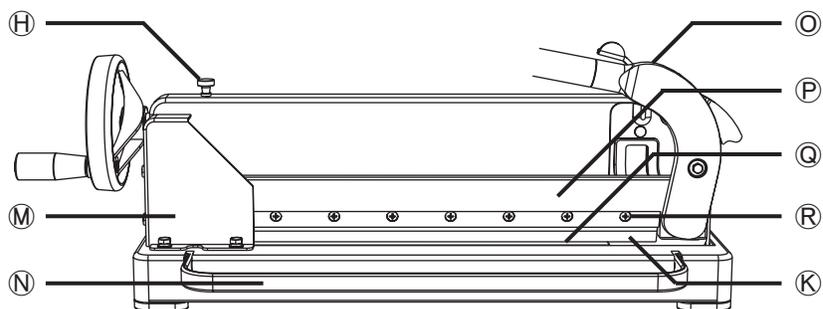
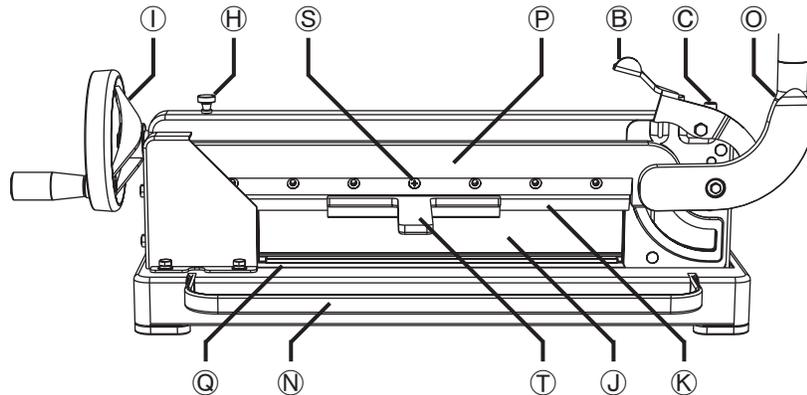

Figure 2
Figure 3
1. Locate the necessary tools. You need one blade holder ① (supplied with the machine) and one #2 philips screwdriver.
2. Place the machine on a flat, stable surface located in a traffic-free area and face the blade carrier ② side towards you. Fold down the support extender ③ as shown in figure 2.
3. Lower down the paper clamp ④ to the bottom position.
4. Release the blade safety lock ⑤ and bring down the cutting bar lever ⑥.
5. Do not release the center blade screw ⑦ at this time! Release the rest of the blade screws ⑧ with a #2 philips screwdriver.
6. Raise the cutting bar lever ⑥ until the lever is locked.
7. Hold the blade knife edge ⑨ with the blade holder ① as shown in figure 3. Release the center blade screw ⑦ with a #2 philips screwdriver. Once the screw is released, lower down the blade and remove from the blade carrier ②.